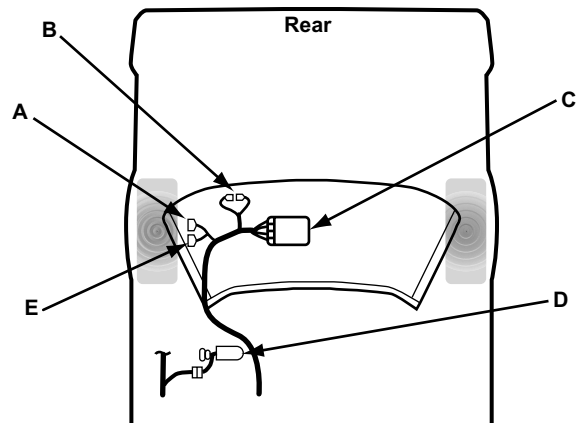

Figure 15-37 1986-87 XT
- “1986–87 XT” on page 195 (Figure 15-37)